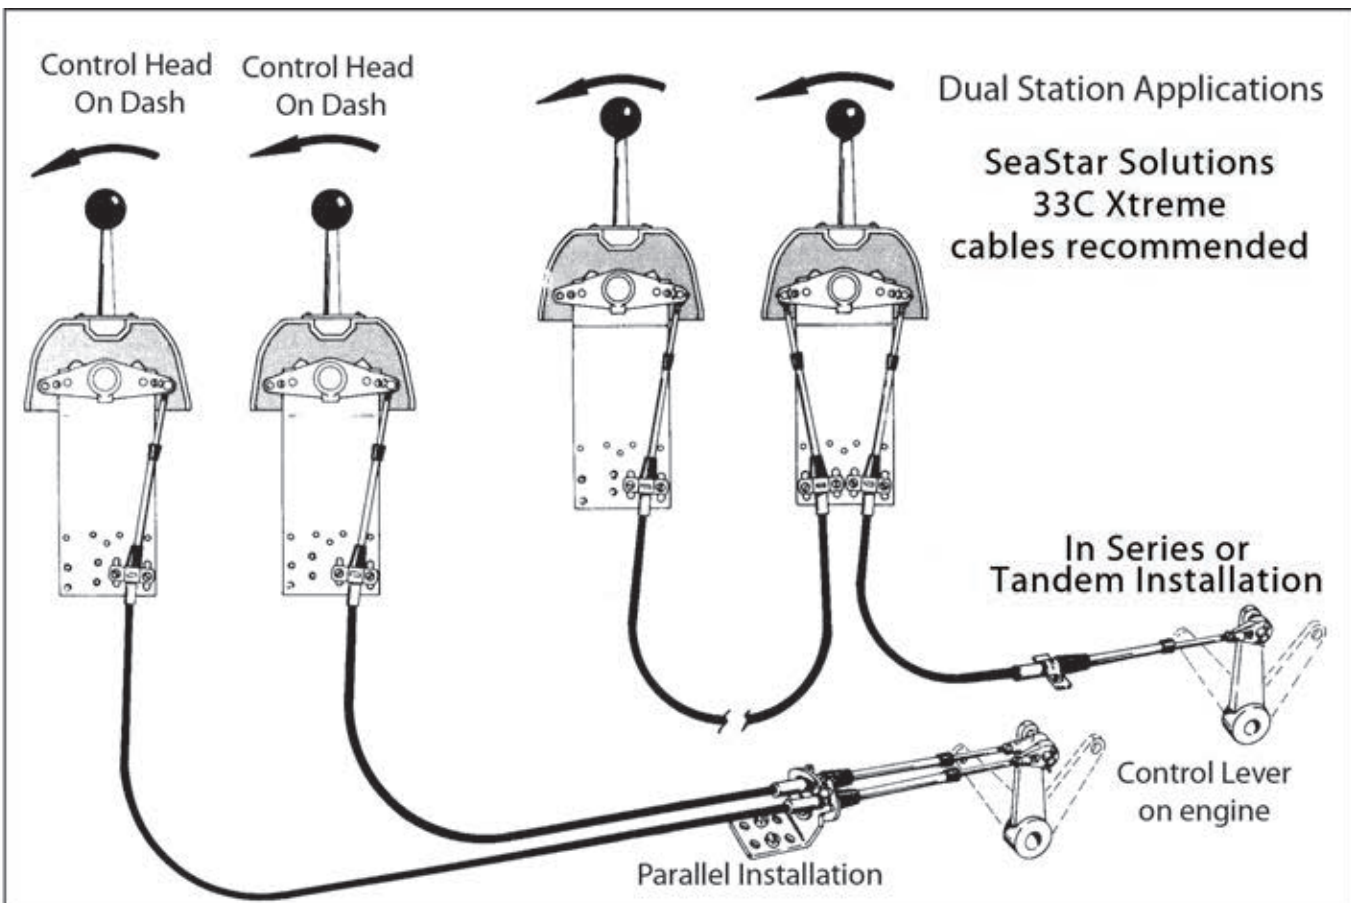

Figure 4.
**STEP 4.** A friction brake setscrew is located at the hub center of the hand lever (See Figure 4). Turn the setscrew clockwise to increase drag on the hand lever or counter-clockwise to decrease drag as required.
Typical dual station applications are shown in Figure 4.